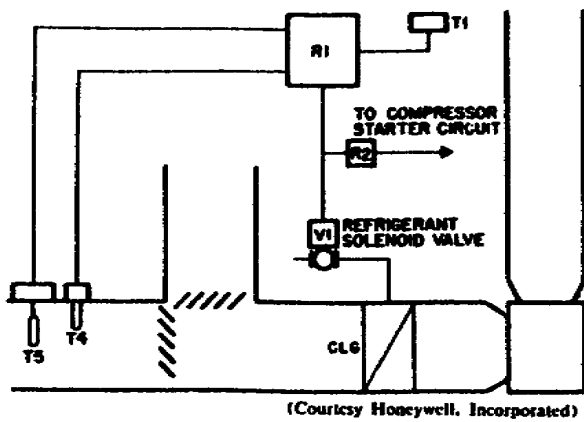

Figure 134. Refrigerant solenoid valve control system.
6. Refrigerant Solenoid Valve Control. The electron control panel R1 in figure 134 will control space temperature by coordinating signals from the space thermostat T₁ and the outdoor thermostat T₄ to operate the refrigerant solenoid valve V₁. T₄ will raise the space temperature as the outdoor temperature rises to a predetermined schedule. T₅ will remove T₄ from the system when the outdoor temperature falls below the setting of T₅ to prevent subcooling of the space at low outdoor temperature.